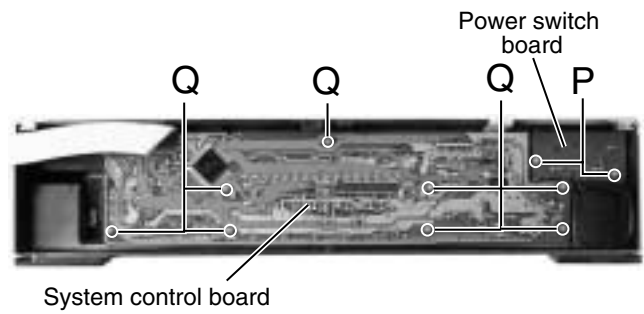

Fig.14
**■ Removing the system control board / power switch board (See Fig.14)**